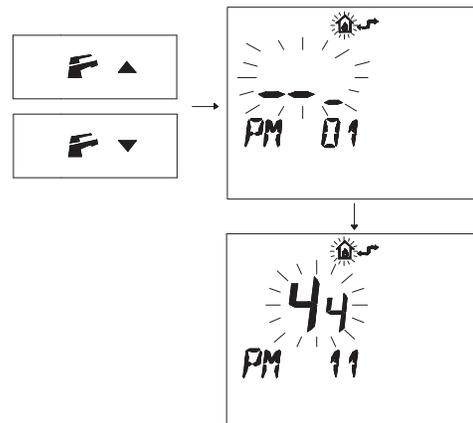

Fig. 7.34
- Press buttons **F**▲ or **F**▼ to display the “PM11” program of the pump post-circulation (Fig. 7.34).